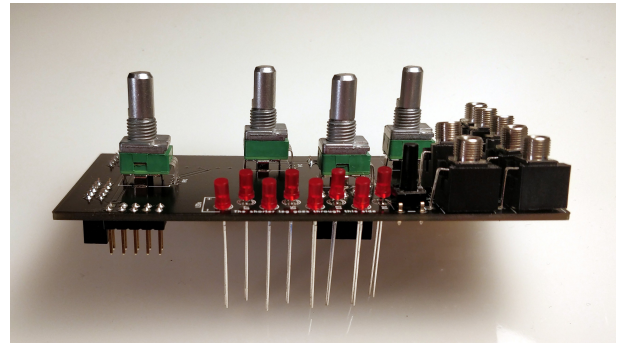

Figure 4: Side view with the front components in
1. Snap in the button. Take care not to bend its leg. Don't push the button all the way to the PCB. See figure 4.